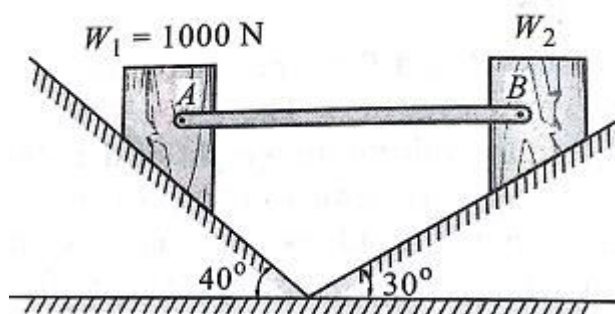

Fig.9
6. Two blocks W_1 and W_2 resting on two inclined planes are connected by a horizontal bar AB as shown in Fig.9. If W_1 is equals 1000 N, determine the maximum value of W_2 for which the equilibrium can exists. The angle of limiting friction is 20° at all rubbing faces. [L4] [12 M]